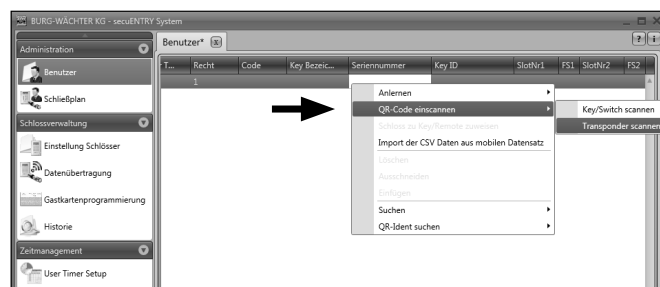

Fig. 1: Scanning Key/Remote
- Select "Scan QR-Ident" and afterwards "Scan Key/Switch" (Fig. 1).